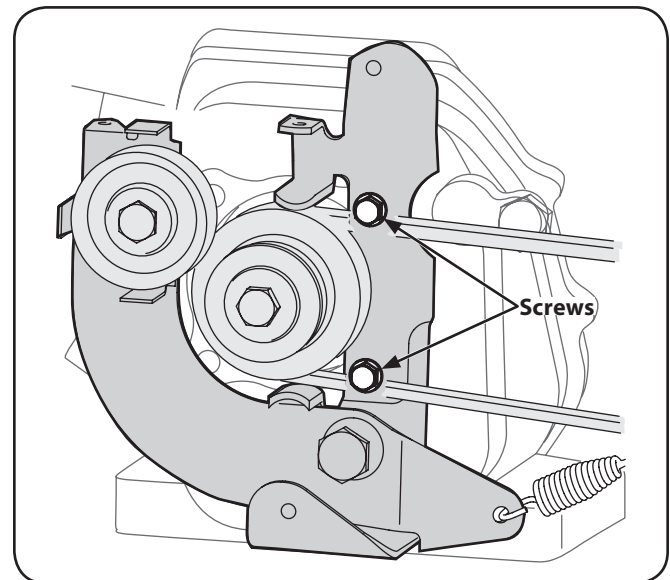

Figure 7-5
4. The forward idler belt will not clear the belt keepers near the engine pulley. You must remove the reverse idler bracket to allow the belt to move off of the engine pulley. Remove the two securing screws and move the bracket toward the transmission pulley. Retain the screws for reassembly. See Fig. 7-5.